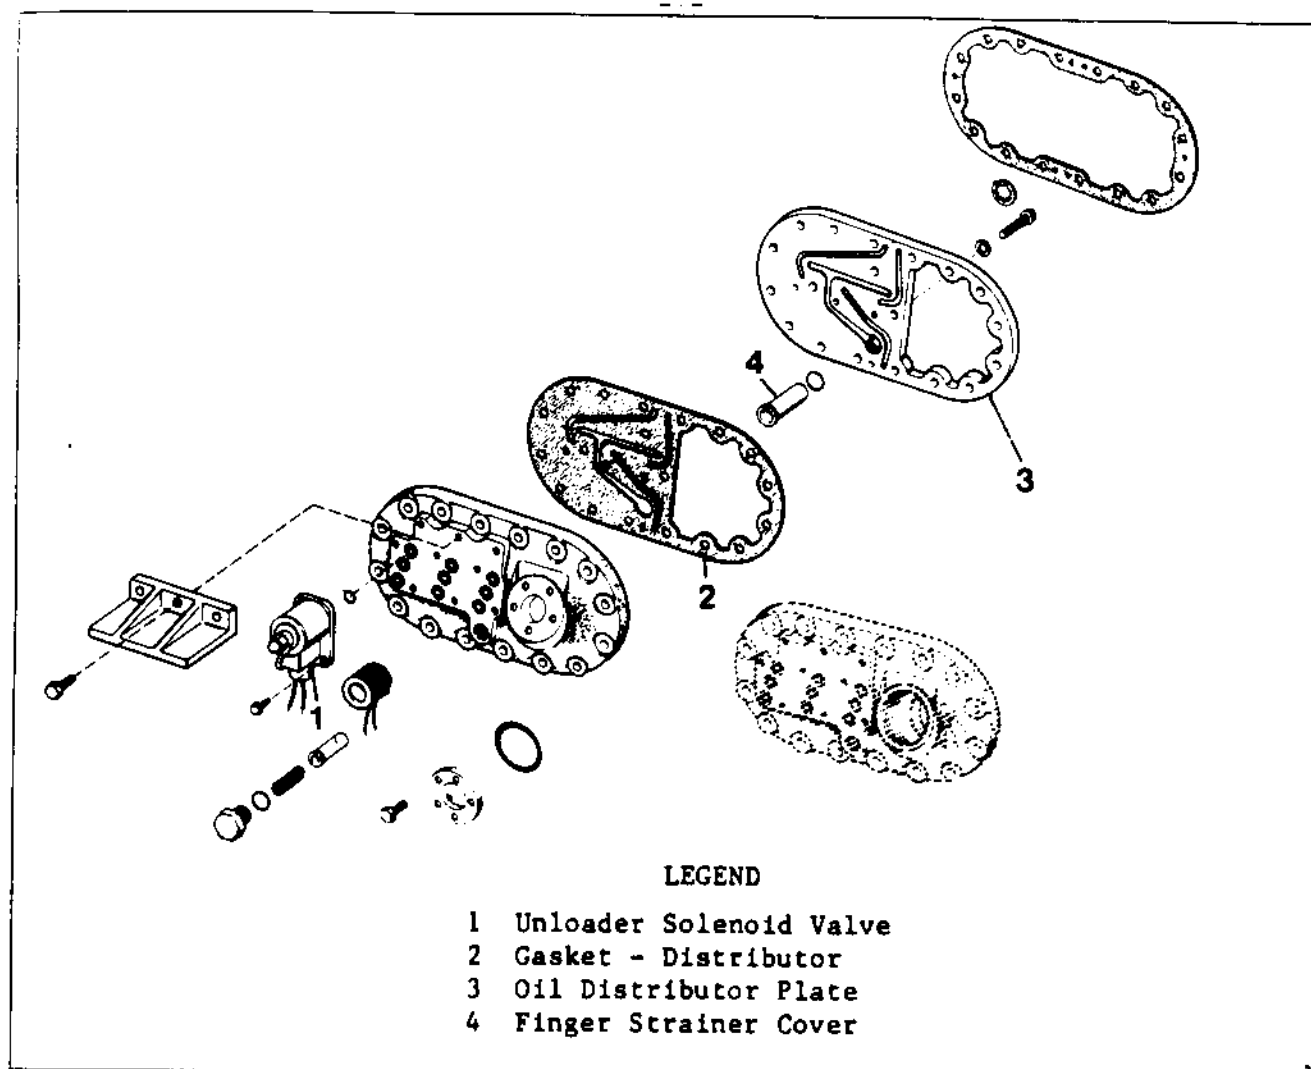

FIGURE 6 - Unloader Hand Hole Cover
- (1) Defective unloader solenoid valve. See Figure 6, Item 1.
- (3) Incorrect or defective gasket between hand hole cover and oil distribution plate. See Figure 6, Item 2.
- (4) Incorrect or defective oil distribution plate. See Figure 6, Item 3.